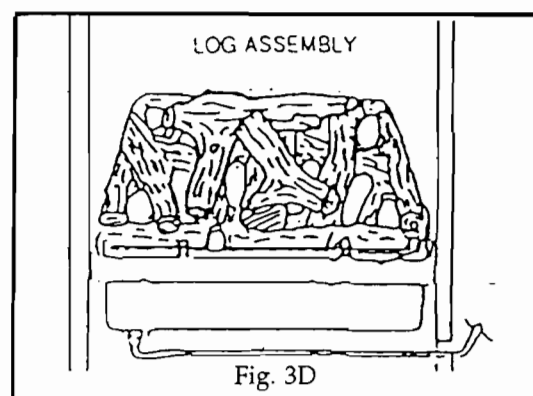

Fig. 3D
- (iii) Replace log number 1 ensuring that it is retained by the peg on the log bed (Fig. 3D). Then replace log number 2 in a similar manner.